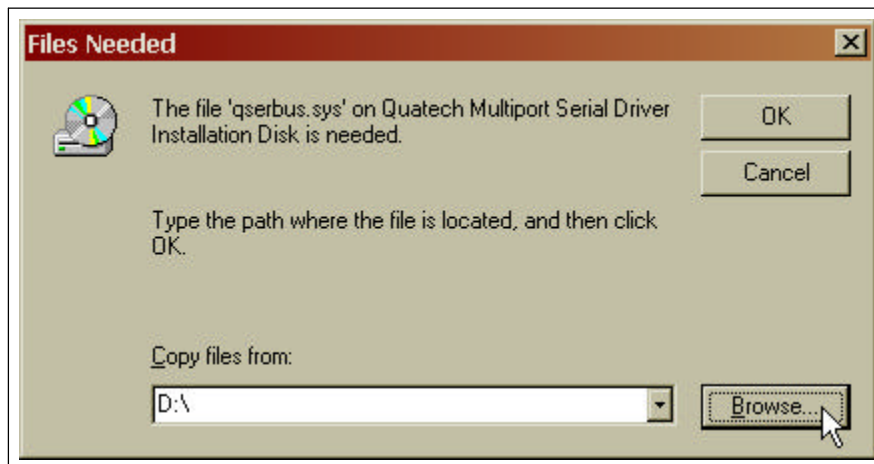

Figure 5
5. Several predefined **Basic Configurations** have been included for the SSP-100 (see Figure 5. SSP-100 Basic Configuration Table). The Basic Configurations provide many combinations of the operating modes and options listed below.